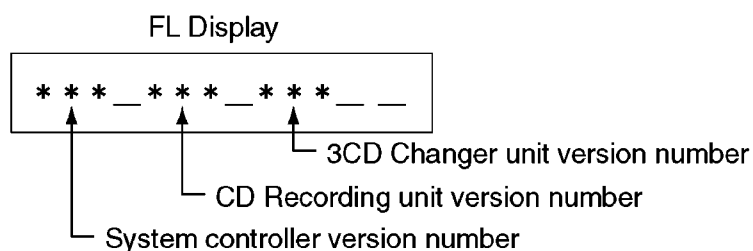

Fig. 12-4
3. Version number is displayed in FL display for five seconds when "SET" key is pushed. When five seconds pass, this mode is automatically made clear. (Refer to Fig. 12-4.)